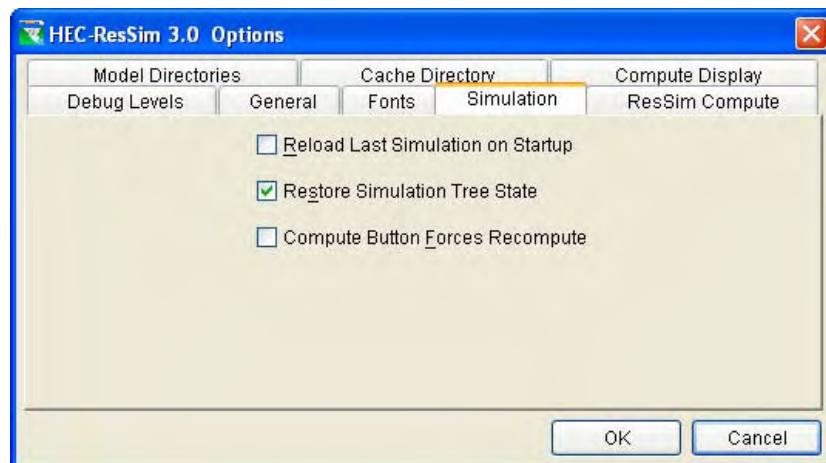

Figure 14.20 Simulation Module, Tools Menu: Options... Simulation
- *Simulation* option – as shown in Figure 14.20, you can choose to Reload Last Simulation on Startup, Restore Simulation Tree State, and/or indicate that the Compute Button Forces a Recompute.